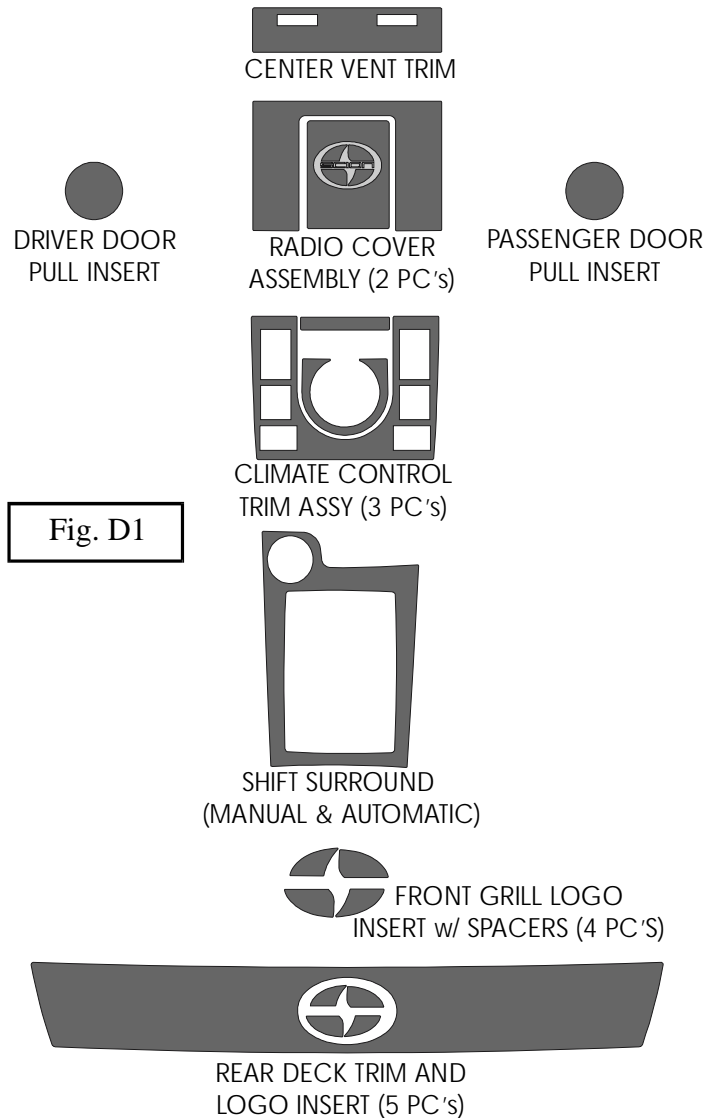

Fig. D1
1. Inspect parts prior to installation to avoid unnecessary removal. (Fig. D1).
1. Thoroughly clean (using method in Step A.3) all applicable surfaces highlighted in Fig. D1.